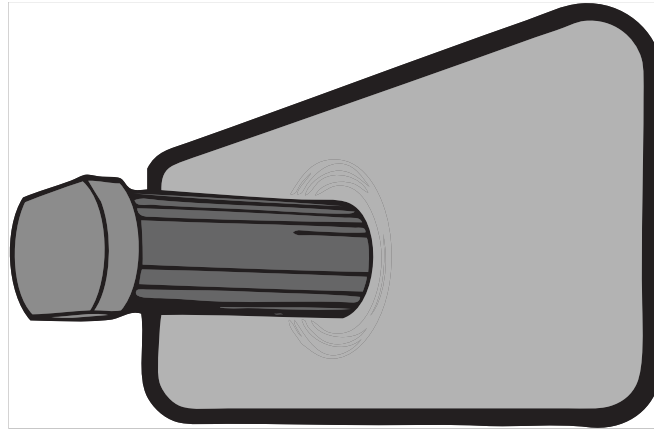

Figure 4-2. Extend Ram Shafts for Inspection
- Apply closing hydraulic pressure to fully extend both ram shafts for inspection (see Figure 4-2 on page 4-5).